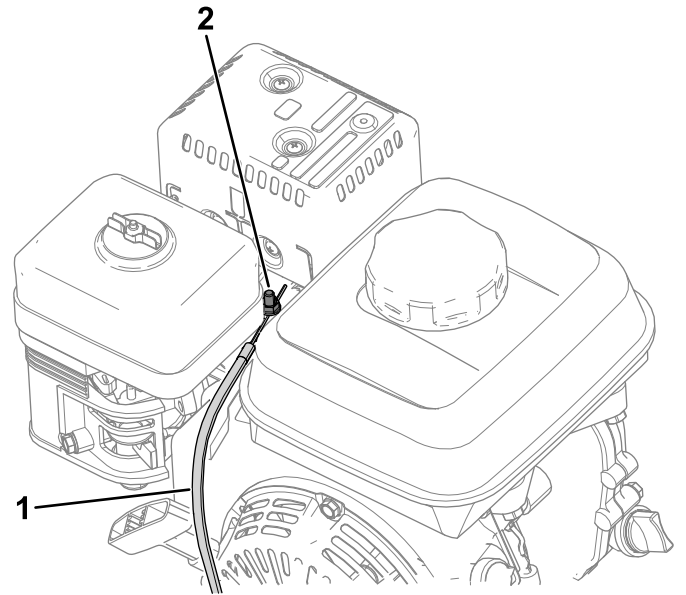

Figure 39
4. Loosen the screw on the cable-conduit clamp (Figure 39).